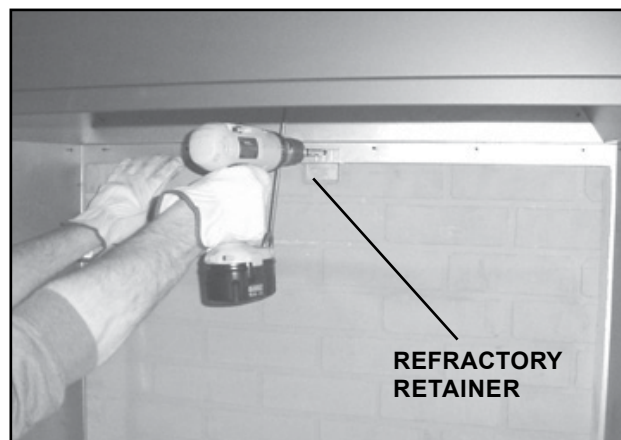

Figure 8.4 Attach Back Refractory
- Fasten in place with the refractory retainer and screws provided with fireplace. See Figure 8.4.